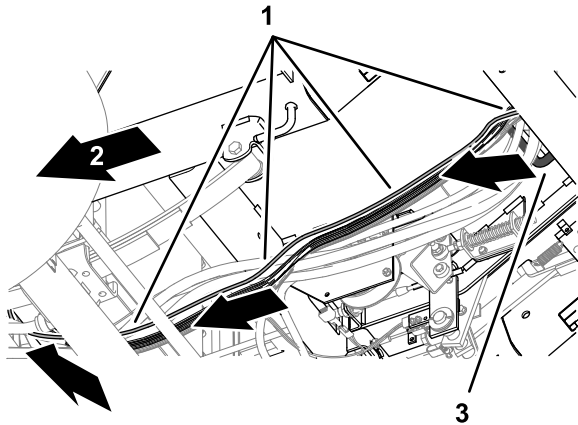

**Figure 160**
2. Route the modem data cable along the wire harness of the machine, and through the grommet in the floor plate (Figure 160).